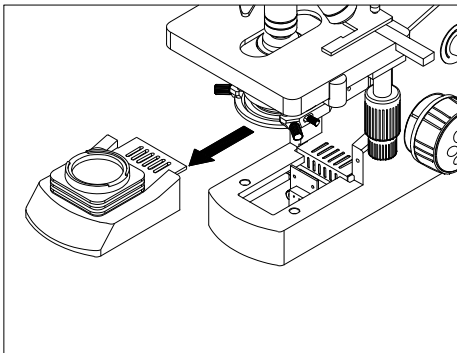

Fig. 11
1. Pull out the condenser holder as shown in Fig.11.
2. Hold the bulb ① after you wrap it with gauze or other protection materials and then insert its pin ② deeply into the jack in the lamp holder.